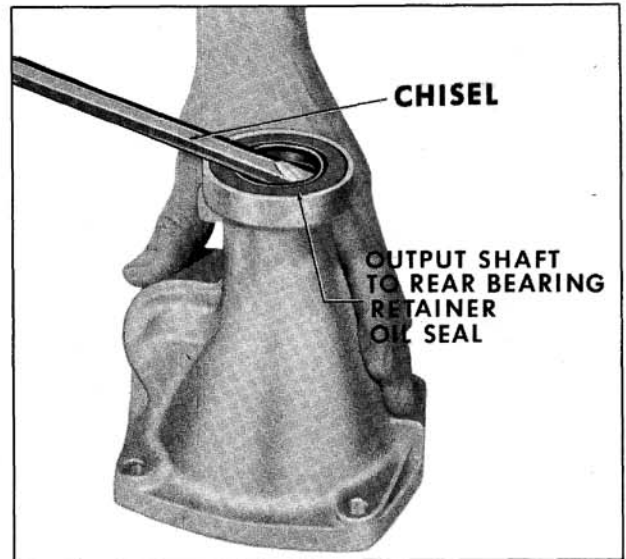

Fig. 6-522 Removing Oil Seal
3. Remove the rear bearing oil seal as shown in Fig. 6-522.